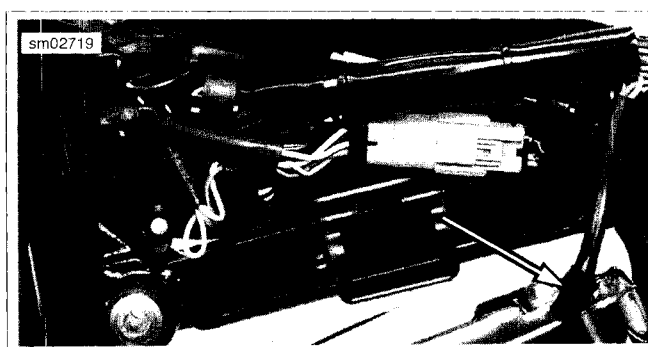

Figure 4-7. Fuel Gauge Connector [117] Location
- b. Remove the acorn nut (6), washers (2), and front mounting screw (1).
- c. Remove continuous vent line (12) from nipple on front of tank.
- d. See Figure 4-7. Disconnect fuel gauge connector [117] located under left side of fuel tank.
2. See Figure 4-7. Connect the fuel gauge connector [117] located under left side of fuel tank.